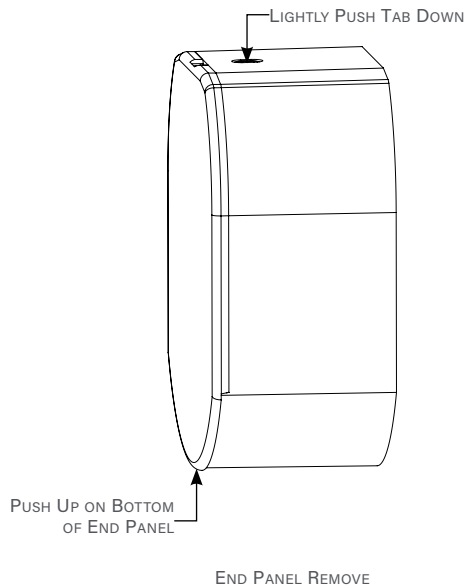

Figure 7
1. Push up on the bottom of the panel and lightly push the tab down (Figure 7).